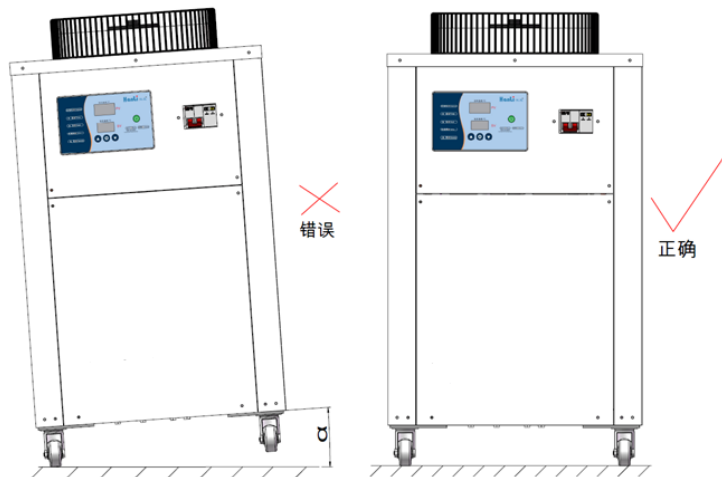

Fig3 Requirements for equipment installation form
- It must be installed horizontally and cannot be tilted. As shown in Figure 3, anchor bolts should be used for equipment without casters, and the universal wheels should be locked for equipment with casters.